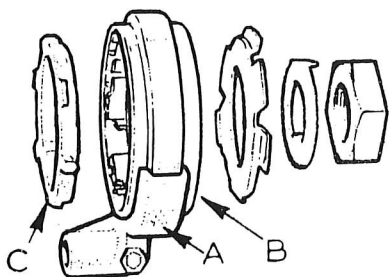
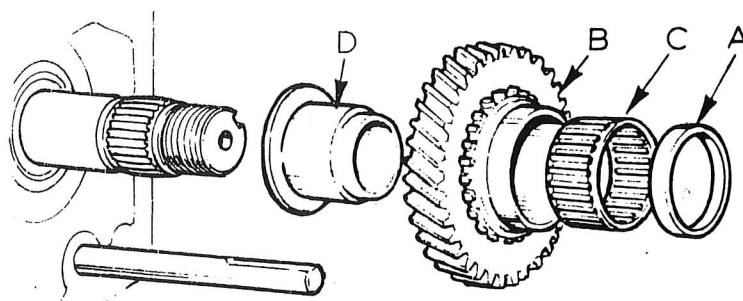

Fig. 16. 5th. GEAR SYNCHRONISER
Fig. 17. 5th. GEAR, BEARING, SPACER AND HUB
- Select Neutral. Release bolt securing the 5th. gear selector fork (A, Fig 16) and remove fork, 5th gear synchroniser (B, Fig.16), baulk ring (C, Fig.16), bearing spacer (A, Fig. 17), 5th gear (B, Fig.17), 5th. gear needle bearing (C, Fig. 17) and its bearing hub (D, Fig.17).